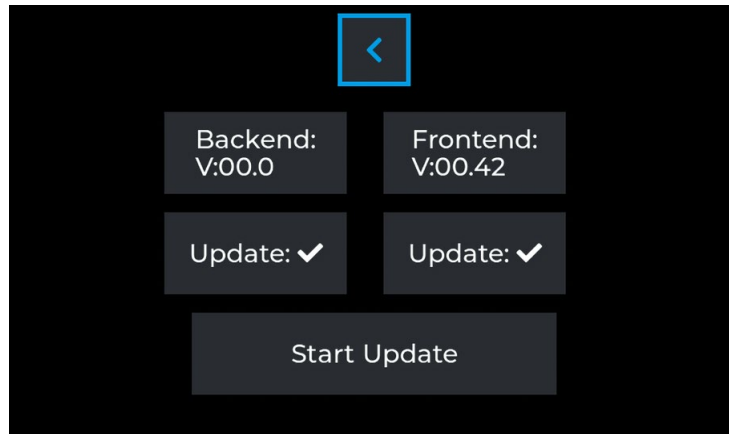

Fig. 6.9 Update menu
- 6) An update window opens as shown in Fig. 6.9. The update can be started with the "Start Update" button. The progress of the update is shown in percent on the display.